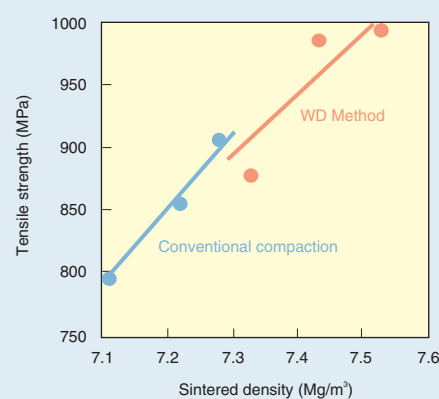

Fig. 2 Relationship between sintered density and tensile strength of sintered compacts
- 2 The densified materials give improved mechanical properties (Fig. 2).